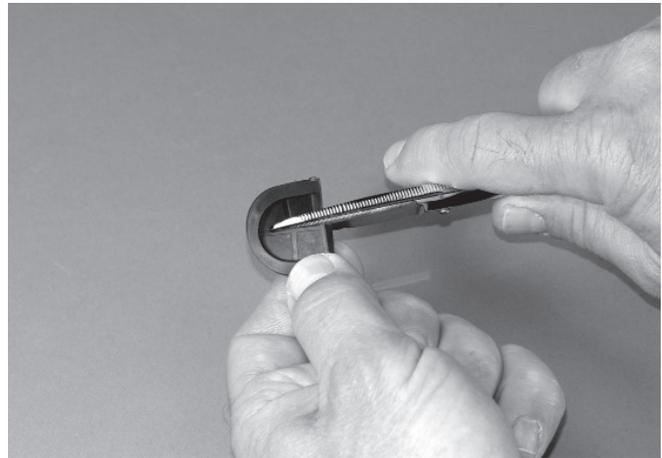

Figure 7
**Note: If necessary, slit the grommet with snips as shown in Figure 7 to allow multiple connectors/cables to pass through.**